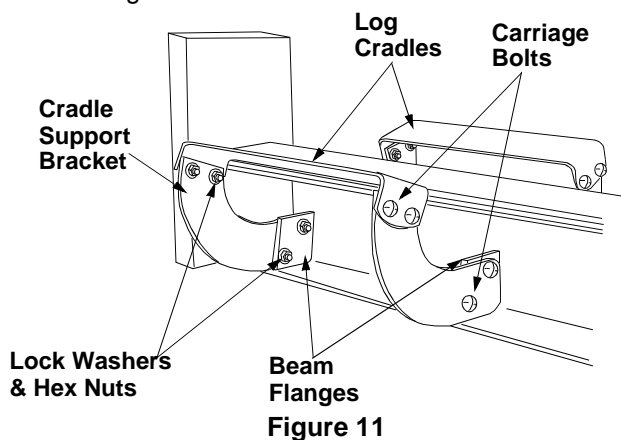

Figure 11
- Place one cradle support bracket against the lower outside surface of one of the beam flanges. See Figure 11.